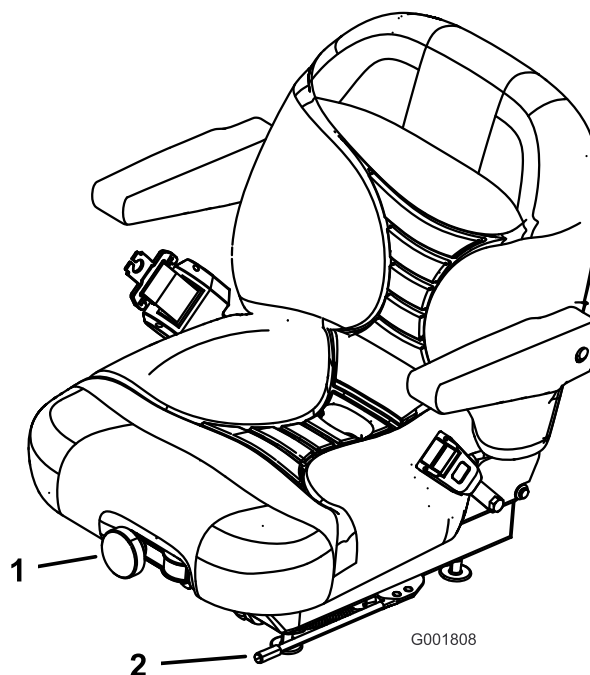

Figure 24
1. To adjust, move the lever sideways to unlock seat (Figure 24).
To adjust it, turn the knob in front either direction to provide the best comfort (Figure 24).